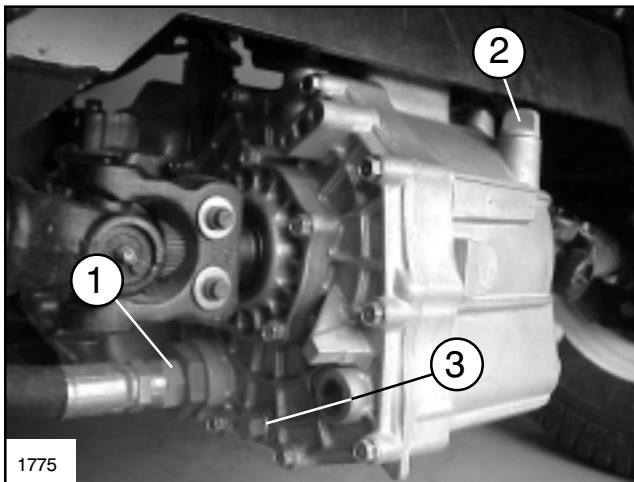

FIG. 24
2. Clean area around transaxle/hydraulic fluid drain plug and remove drain plug from side of reservoir (See FIG. 24), and let transaxle/hydraulic fluid flow into drain pan. Reinstall and tighten plug when hydraulic fluid stops draining.